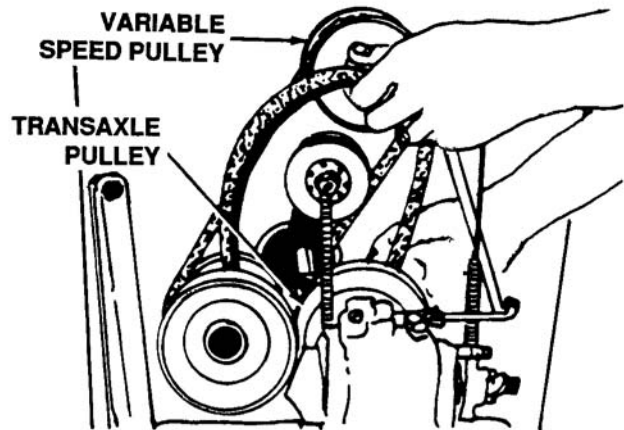

Figure 7-15. Location of V-Belt Pulleys
- Slip the V-belt off the variable speed pulley and transaxle pulley. See Figure 7-15.